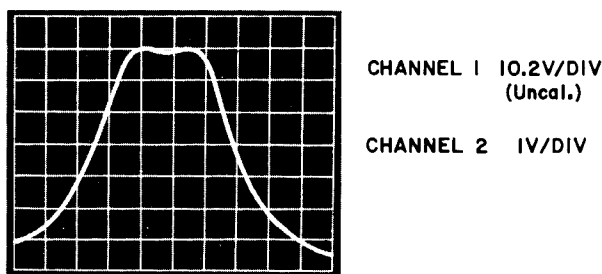

Figure 4-22. AM Detector Response
- 5) On the AM/FM Demodulator module (A9) adjust C46 and C57 to produce a flat and symmetrical response centered at 21.4 MHz and 650 kHz ($\pm 10\%$) wide at the 3 dB points. **Figure 4-22** illustrates the typical AM Detector response for bandwidths less than 300 kHz.